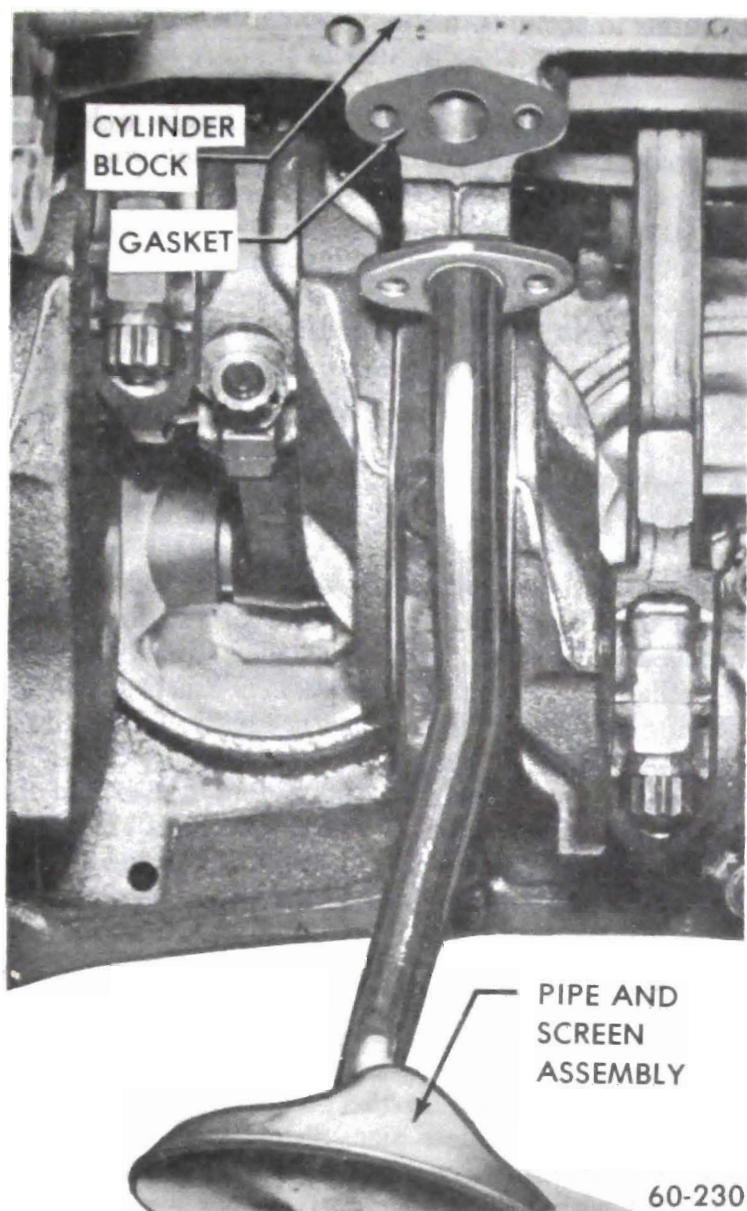

Figure 60-31 - Oil Pickup Pipe and Screen
2. Use new gasket and tighten bolts to 8 lb. ft. torque. See Figure 60-31.